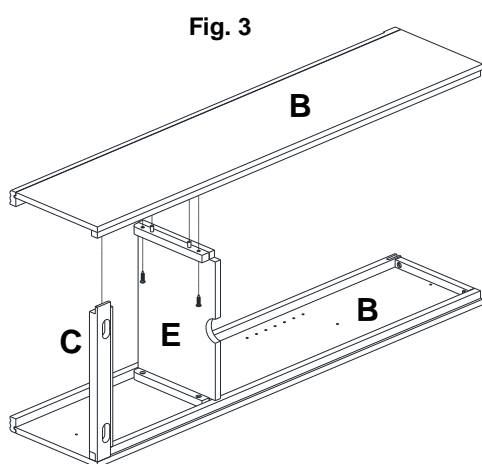

Fig. 3
4. Attach the other Side Panel (B) and repeat step 2 & 3 as shown in **fig. 3**.